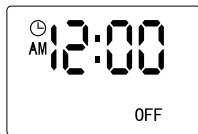

Figure 4-2
- Press the "OFF" button, the timer is always OFF, and the screen shown in Figure 4-2.